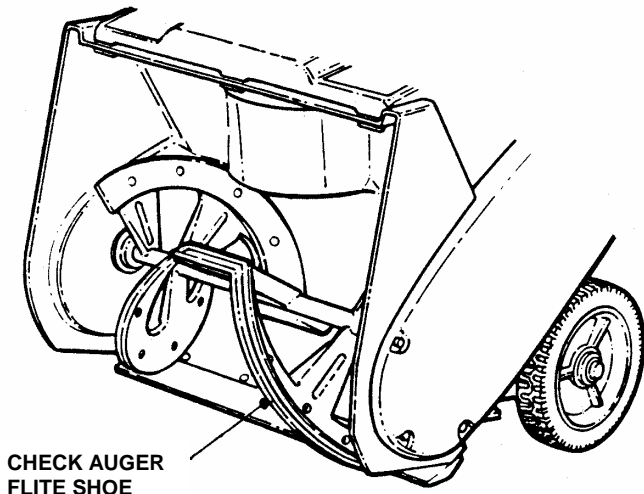

FIGURE 3.2
1. Visually check flite shoes for cracking, fraying severed or exposed belt strands. Replace worn flite shoes before operating snow thrower. See Figure 3.2.